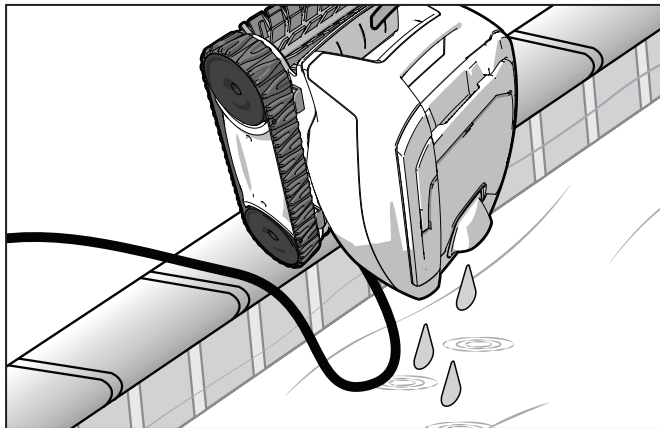

Figure 9. Drain Water from the Cleaner
3. Hold the cleaner vertically over the pool surface to drain water before removing (Figure 9).